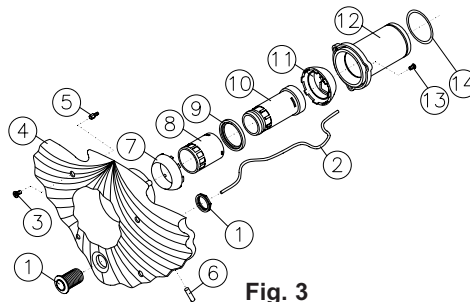
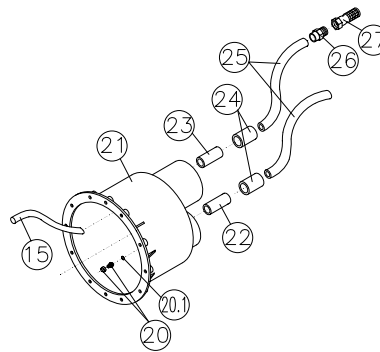

Fig. 3
Fig. 2
**3.1** To fix the niche (no.21, fig.2) in a concrete wall, only the instructions given in chapter 2 (place of installation) need be followed.
**4.1** The niche is supplied with pipes no.22 and 23, (fig.2) already installed. Additionally, one of the hoses (no.24, fig.2) is supplied glued inside pipe no.22.
This line is made up of a hose (no.24), a flexible pipe (no.25), a male screw fitting (no.26) and a foot valve (no.27). All these parts are supplied fitted, so it is only necessary to glue the end of the hose (no.24) to the pipe (no.23) which is already fitted in the niche. It is important to fix the air line pipe to the wall of the housing so as to ensure that foot valve is in the upper part. This is so as to avoid sucking up dirt (see fig. 8, page 20). Lastly, install the flexible pipe (no.15, fig. 2) pressing it inside the nozzle in the interior of the niche (see fig.5, page 17).
This line is made up of a pipe (no.22), a hose (no.24) and a flexible pipe (no.25). As the pipe (no.22) and the hose (no.24) are already installed in the niche, you only need to glue the pipe (no.25). Before gluing the end of the pipe (no.25) to the hose (no.24), fit the transparent pipe (no.2, fig.3) into the pneumatic line and pass the end of the transparent pipe (no.2, fig. 3) through the hole in the niche. Fix it in position with the clamp (no.20 and 20.1, fig.2). Once this is complete, glue the pipe (no.25) to the hose (no.24). The end of the transparent pipe (no.2, fig.3) will be connected to the microswitch located on one side of the hydropneumatic cut out included with the HIDROJET equipment.